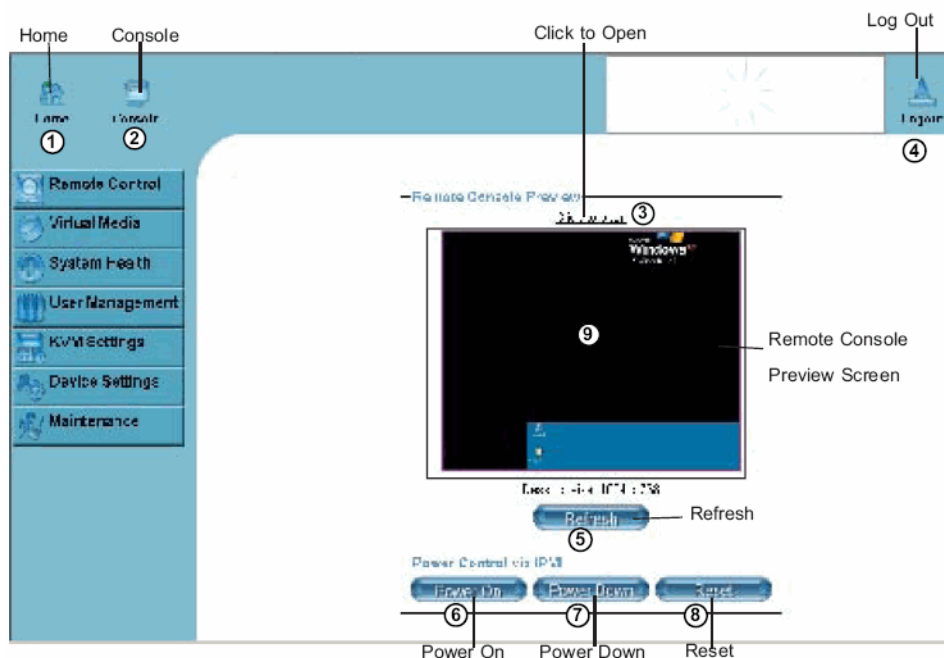

Figure B-23 Remote Console Screen
After you have entered the correct IP address for your remote console and typed in correct user name and password, you should be connected to the remote console. When the remote console is connected, the Remote Console window displays as shown in Figure B-23.
- Click on the link “Click to Open” to open the remote console screen (refer to item 3 in Figure B-23).